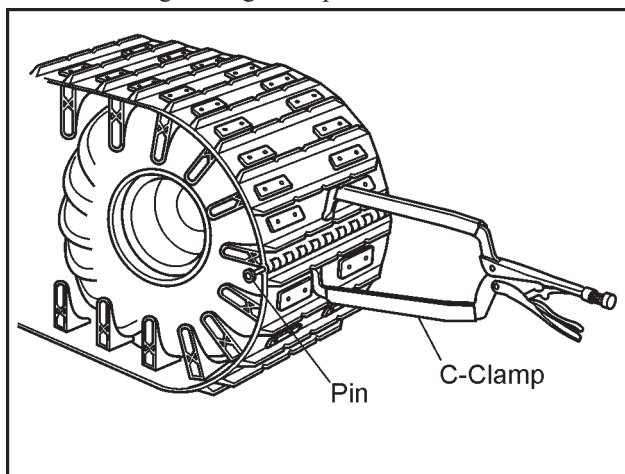

Figure 11-3. Securing with C-clamps.
6. Join the two ends of the track and secure them in place with C-Clamps as shown in Figure 11-3, so that the holes of the hinge lacing line up.